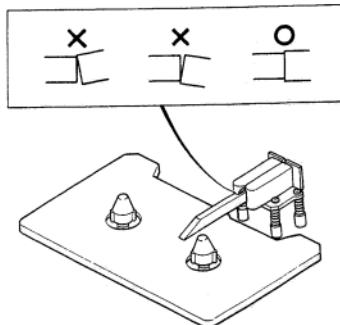

Fig. 4-5
3. Apply jig B to the head as shown in Fig. 4-5, to check tilt. If necessary, adjust screws E and F evenly (until the head is flush with the jig). Rotational amount of both screws E and F should be the same and be limited within 1/8 turn.
- 3). 図4-5 の様に治具Bをヘッドに当てて、チルトを確認し
8. Apply jig B to the head as shown in Fig. 4-5, to check tilt. If necessary, adjust screws A and B *evenly* (until the head is flush with the jig). Rotational amount of both screws A and B should be the same and be limited within 1/4 turn.
8). 図4-5 の様に治具Bをヘッドに当てる、チルトを確認しヘッドが治具Bに対して垂直になる様にねじA、Bを同量(1/4回転以下)回し調整する。